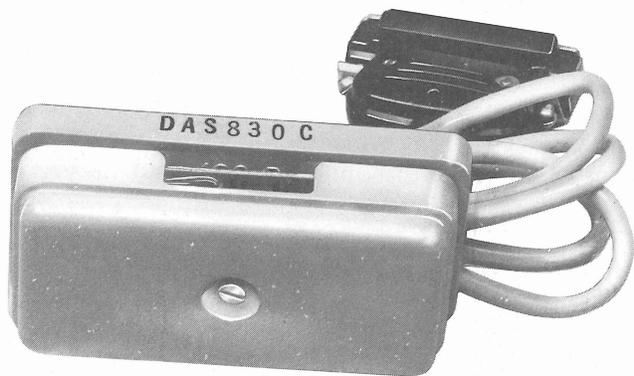

Fig. 7 → DAS 830C Terminal Board ←
2.03 DAS 830C consists of a metal and plastic housing which contains a printed circuit board. The circuit board and plastic cover is mounted on a 168D-49 backboard equipped with a 101A-49 cover. The circuit board provides option jacks and screw terminals (Fig. 7) for connections to a CPT or TTY. The DAS 830C is equipped with a 5-foot cord; one end equipped with a male 25-pin EIA connector for connection to a DAS 830A (or 820D):
- Pin 2—Transmitted data (BA).
- Pin 3—Received data (BB).
- Pin 7—Signal ground (AB).
- Pin 8—Carrier fail (CF).